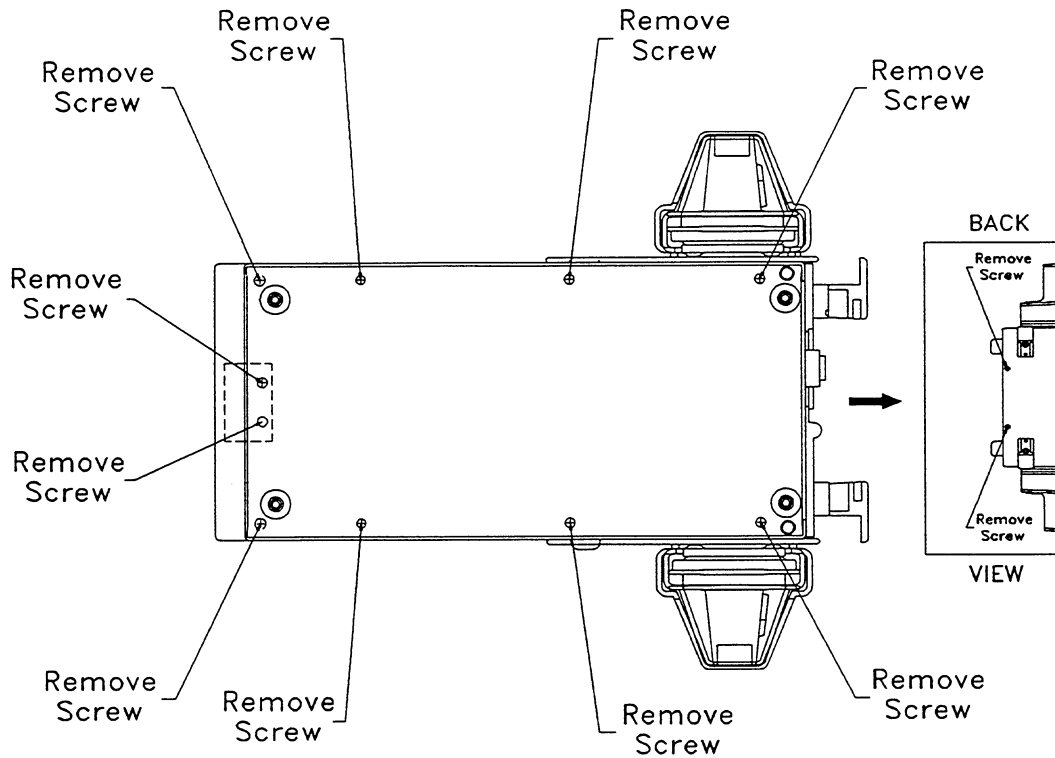

FIGURE 10.1
10.2.0 Bottom Cover Removal: Remove 12 Phillips head screws as shown below in Figure 10.1. Lift off bottom cover. Install safety shield.